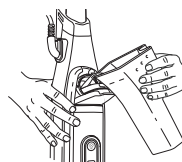

fig. 8
- 5 Use the filling flask to pour water into the water tank. (fig. 8) Water can be poured into the tank directly. Do not overfill past the water line on the fill flask. Press the water tank lid firmly to close it.